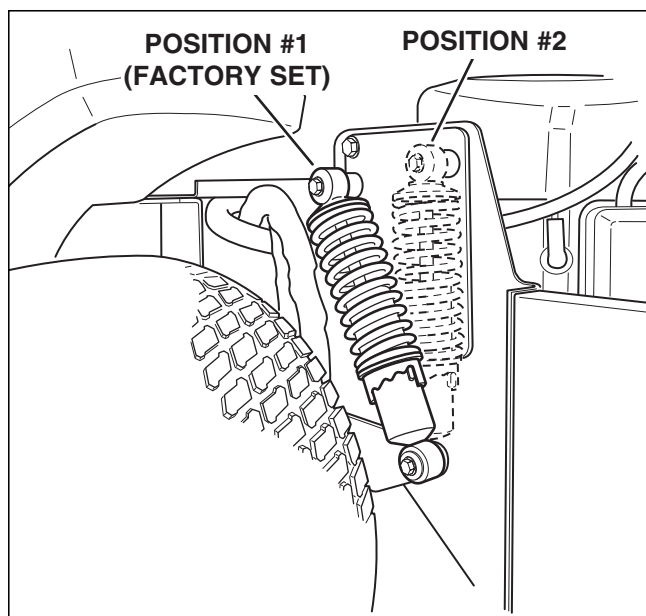

Figure 36. Rear Suspension Adjustments
4. See Figure 36. Using the supplied spanner wrench (p/n 5022853), insert the tip of the wrench into the notch in the pre-load adjuster. While holding the wrench in place with one hand, turn COUNTER-CLOCKWISE to increase the pre-load, turn CLOCKWISE to decrease the pre-load. Make sure both shocks are set to the same amount of pre-load.
4. Remove the upper shock mounting hardware and pivot the shock to the position #2 (see Figure 36). Adjust the jack to align the shock mounts to the shocks.